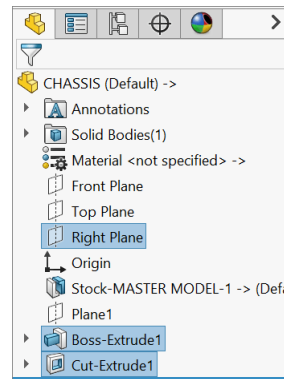

Fig. 17
Step 1. Ctrl click Right Plane, Boss-Extrude1 and Cut-Extrude1 features to select plane and features, Fig. 17.